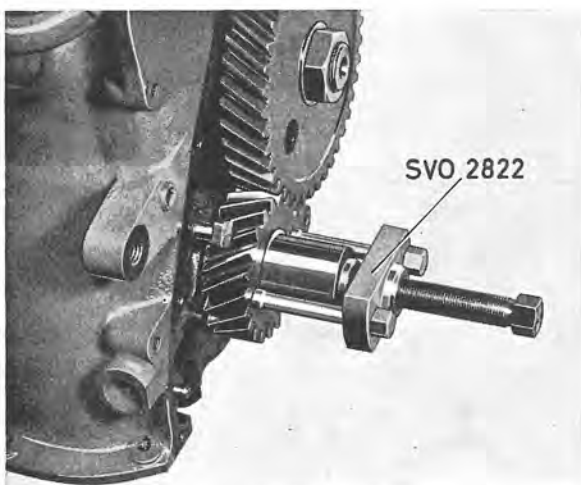

Fig. 2-41. Removing crankshaft gear
5. Pull off the crankshaft gear with puller 2822, see Fig. 2-41.